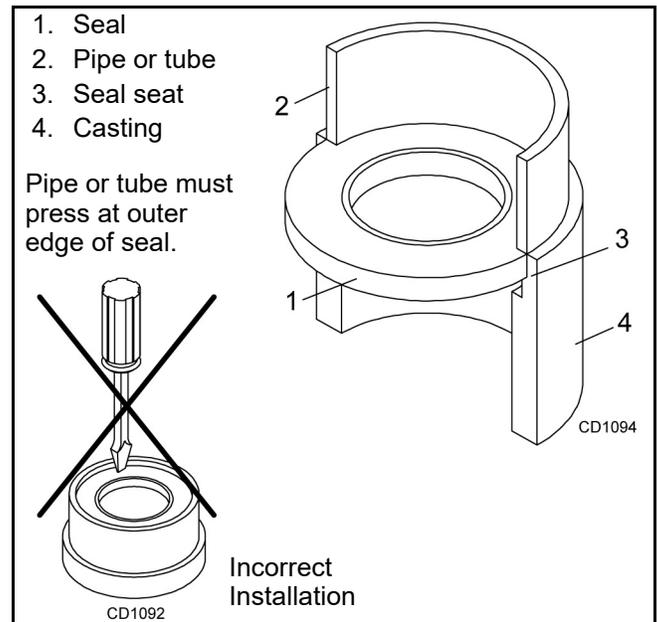

Figure 9. Seal Installation
2. Remove vent plug (27), Figure 9, and siphon gear lube from housing through this opening.
3. If the leak occurred at either end of horizontal shaft, remove oil cap (11) and/or oil seal (1). Replace with new one (see Seal Replacement, page 26).